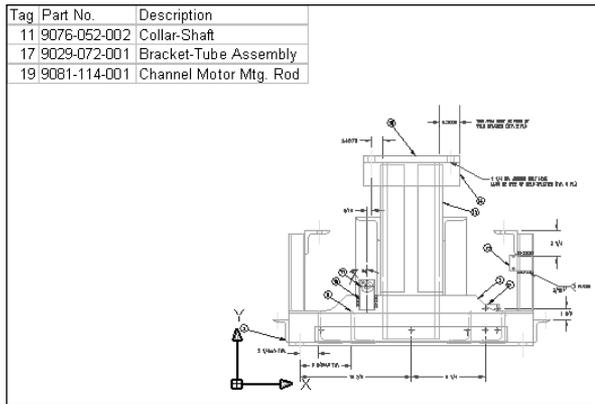

Figure 27-16: The spreadsheet inserted into the drawing.
5. In the spreadsheet application, choose File ⇨ Update and then choose File ⇨ Exit. The worksheet appears in the drawing, as shown in Figure 27-16.